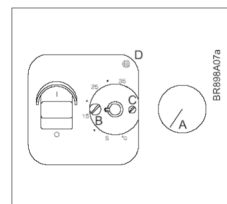

Fig. No 1
A locking mechanism is positioned behind the control knob to limit the amount of adjustment possible. By loosening the small screw (C) Fig. No 1, the scale range can be locked, e.g. between 20°C and 25°C. The red ring indicates the maximum temperature and the blue ring indicates the minimum temperature.
- Remove the control knob (A) (Fig. No 1).
- Screw should be unscrewed and the cover lifted off (B) (Fig. No 1).